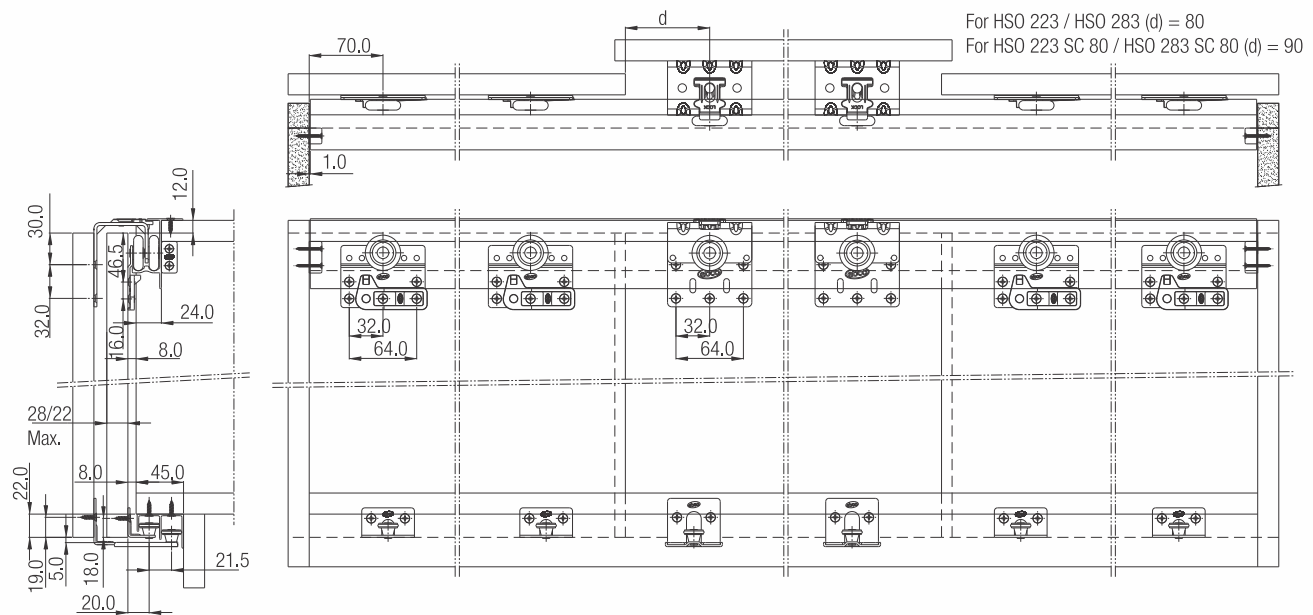

Fig. 1.
1. Fit the Top Track to the top face of the cabinet as shown in Fig 2. (for dimensions refer Fig. 1.)
3. Fit the Bottom Track to the bottom face of the cabinet as shown in Fig 3. (for Dimensions refer Fig. 1.)
4. Fit the Top Hanger Outer to the inner face of the Outer Shutter & Top Hanger Inner to the inner face of the Inner shutter as shown in Fig 1.
5. Fit the Bottom Guide Outer to the inner face of the Outer Shutter & Bottom Guide Inner to the inner face of the Inner shutter as shown in Fig 1.